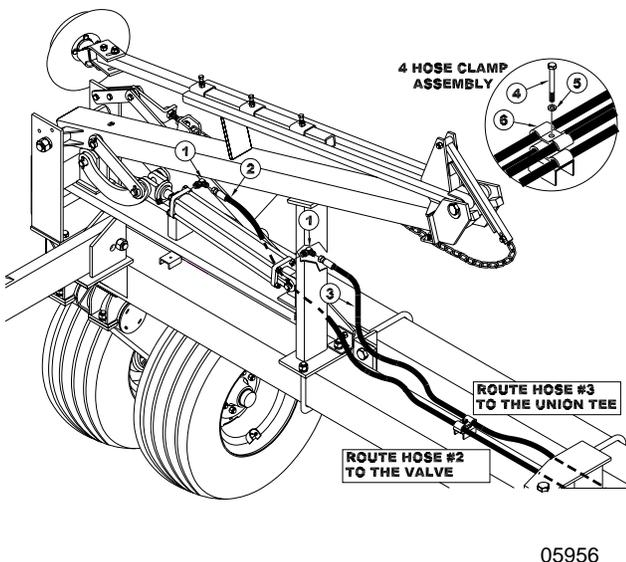

Figure 7
- Insert 90 degree straight thread elbows (#1), as shown in Figure 7, into the row marker cylinder.